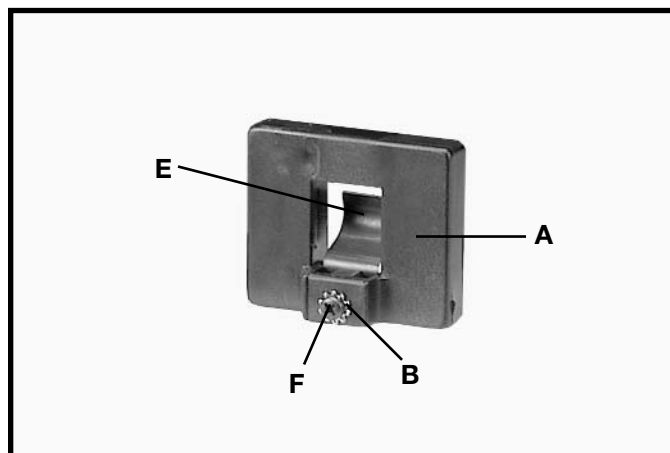
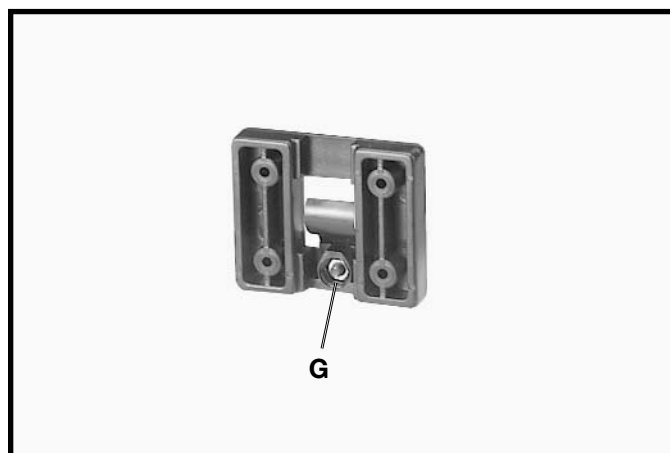

Fig. 19
Fig. 20
2. Assemble spring clip (E) Fig. 19, to the miter gage holder (A) as shown using a M4x.7x10mm pan head screw (F), 3/16" external tooth lockwasher (B) and M4x.7 hex nut. **NOTE:** Hex nut (G) Fig. 20, will fit into the recess at the back of the miter gage holder (A) Fig. 19, to keep spring clip (E), secured to the miter gage holder.